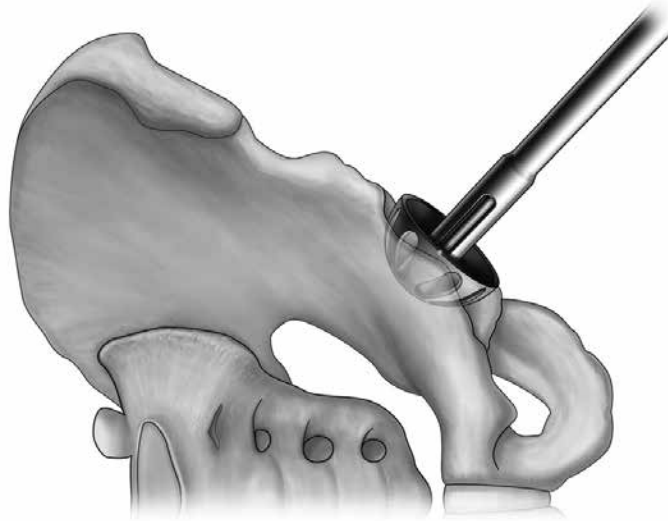

Figure 2
Step 1: Assemble the appropriate Acetabular Shell Trial onto the Acetabular Shell Impactor, Straight, and insert into the reamed acetabulum (*Figure 2*). Trialing of the shell will determine reaming accuracy as well as judge the final placement of the acetabular implant relative to the peripheral rim.